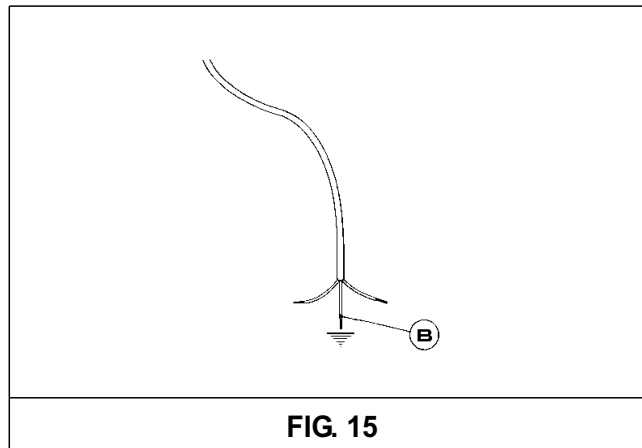

FIG. 15
If the power supply cable is replaced, the installer should leave the ground wire longer than the phase (B) conductors (fig. 15) and comply with the recommendations given in paragraph 6.